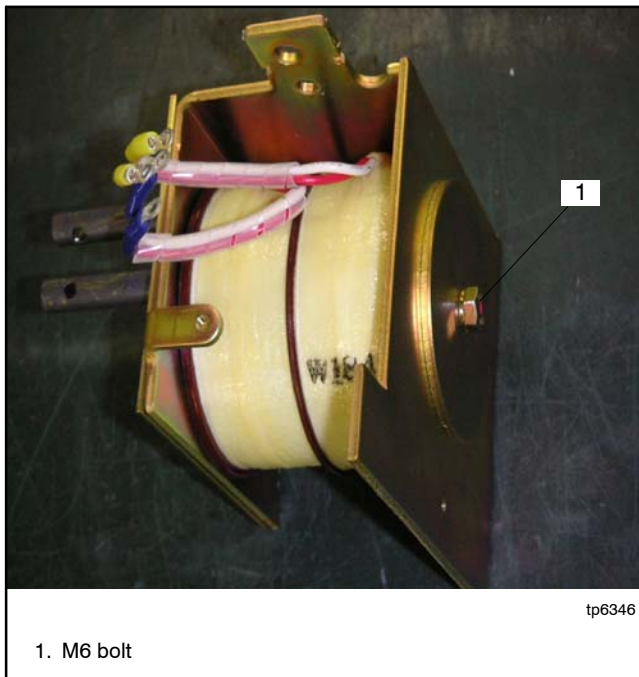

Figure 7-31 Loosen the M6 bolt on the frame.
4. Loosen the M6 bolt on the frame. See Figure 7-31.